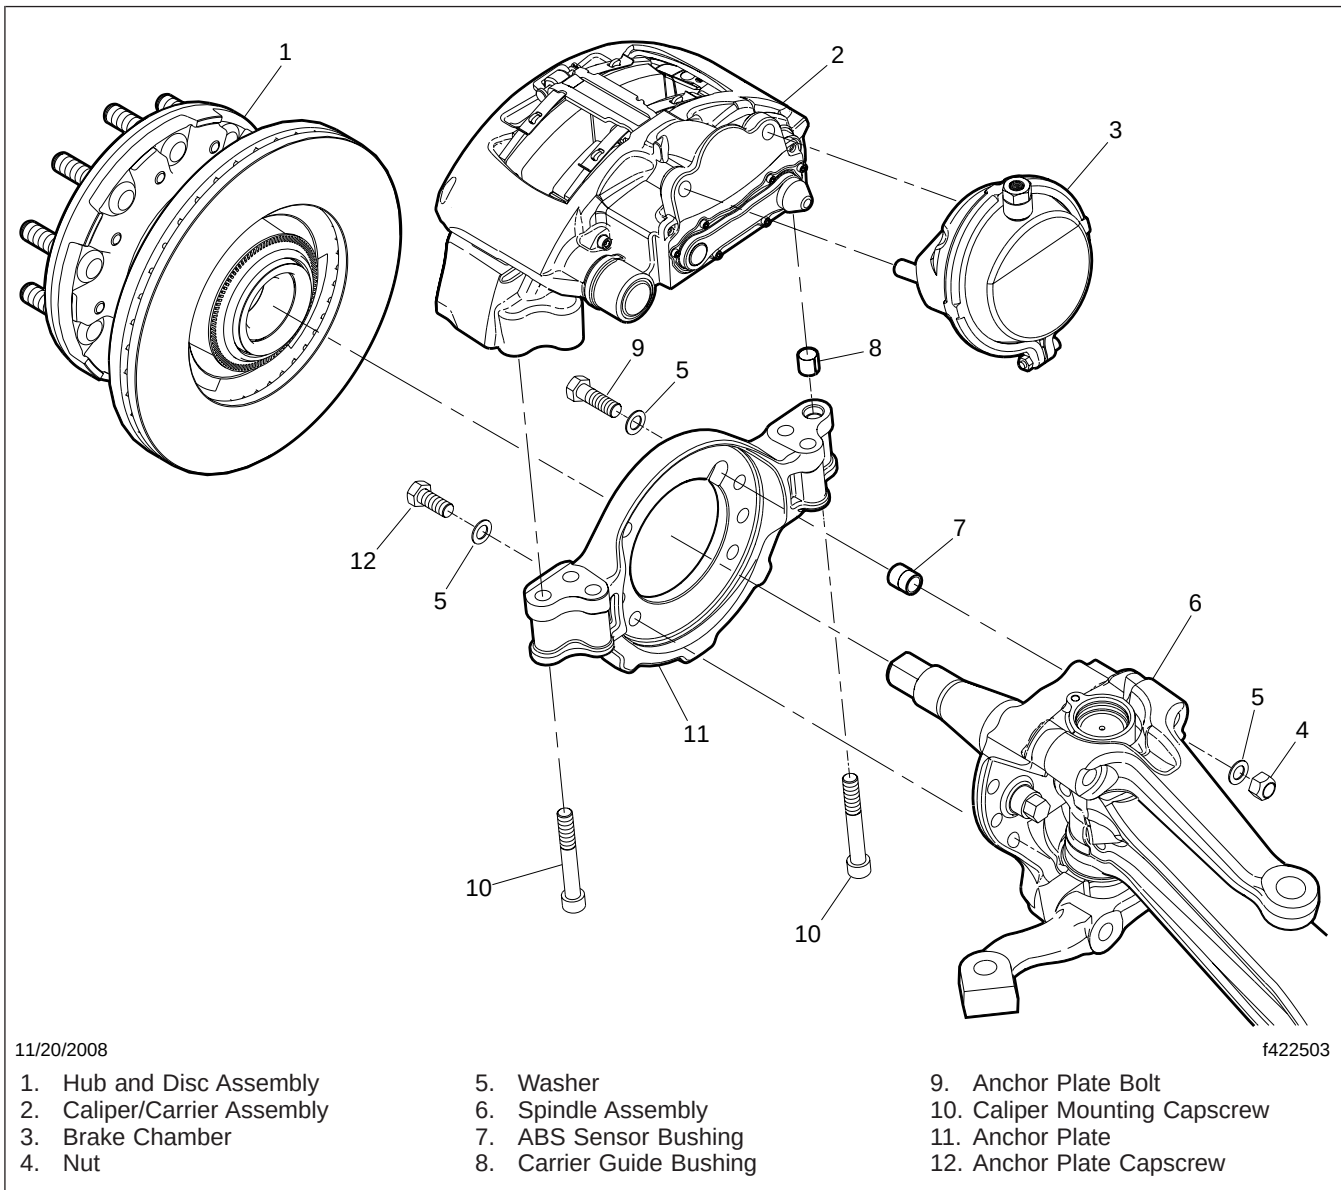

Fig. 1, Front Axle Anchor Plate Installation
2. Install the capscrews, washers, and nuts, as shown in Fig. 1.